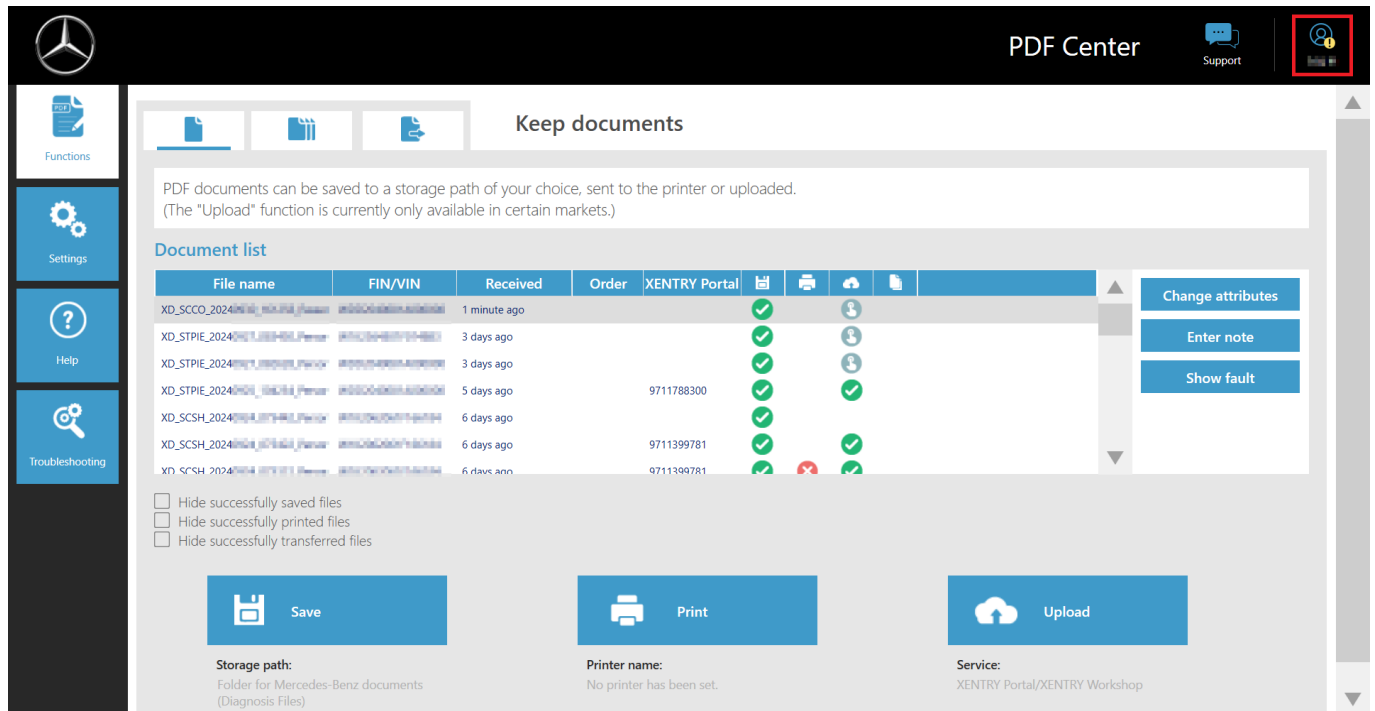

Fig. 29: PDF Center functions - Keep documents 1
2. ➔ As soon as the PDF Center has opened, click on the "Log in" profile icon in the top right-hand corner (see red box in Fig. 29).